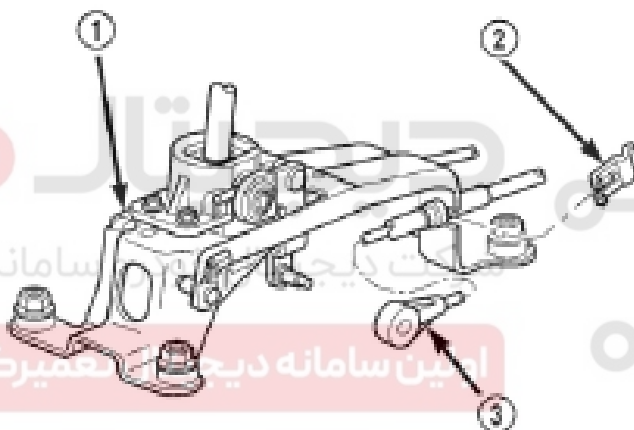

Figure 3-154 Selector cable on shift bracket
(5) Pick off the selector cable clamp and remove selector cable from the shift lever (Figure 3-154).
- (2) Assemble the shift shaft assembly on the shifting support and mount the fixing clip (Figure 3-154).